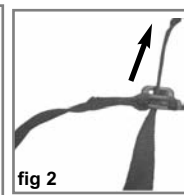

fig 2
2. Insert Strap through Slot "A". (fig 2)